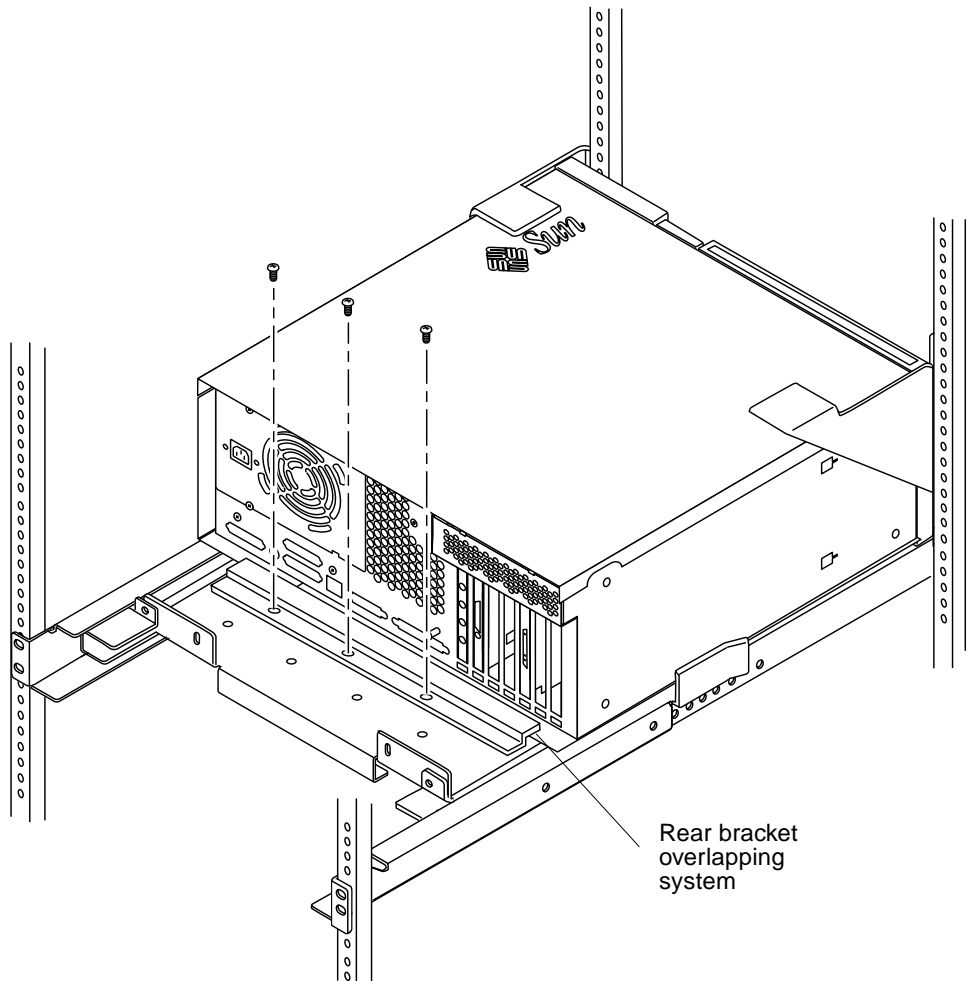

FIGURE 14 Fastening the Ultra 30/60 System to the Mounting Tray
9. Using three of the provided screws, fasten the rear mounting bar to the rear of the rackmounting tray (FIGURE 14).